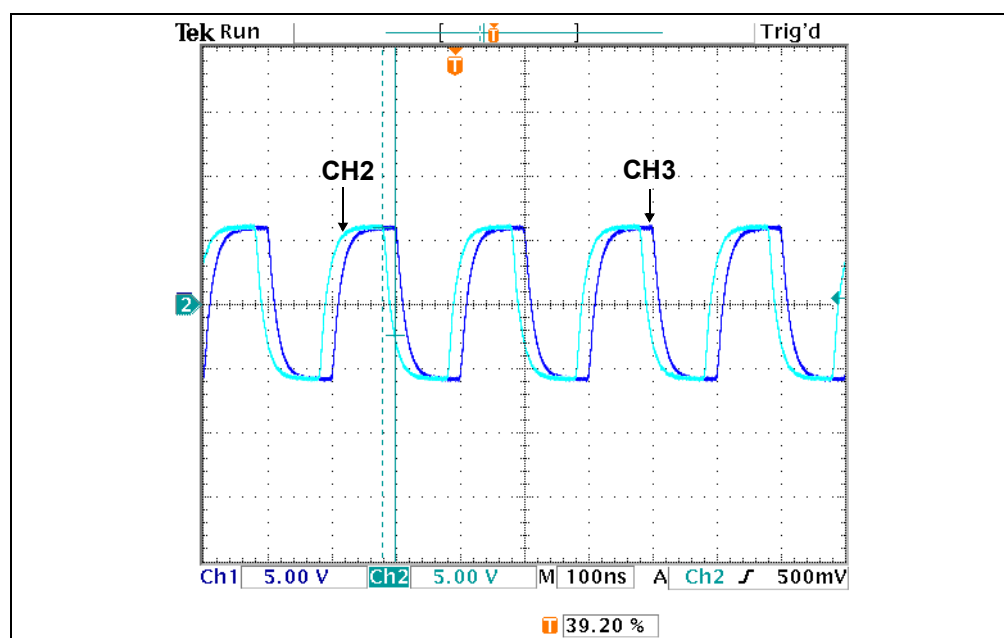

FIGURE 3-15: CW Mode-0 Output.
10. An oscilloscope screenshot of the waveform generated is shown in Figure 3-15.